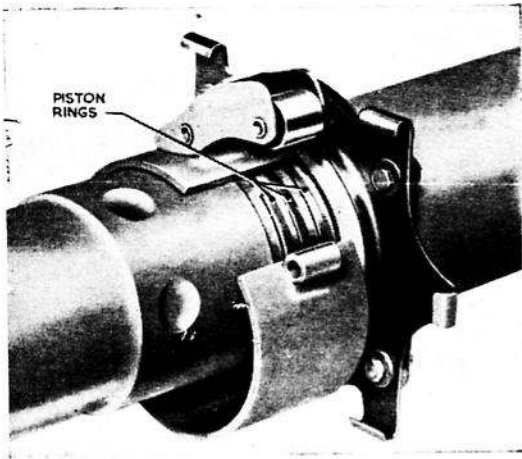

Fig. 11. Fitting piston ring clip
- (1) Check the piston rings for freedom in their grooves and set them with the gaps at approximately 120 deg. radial spacing.
- (2) Apply a coat of grease XG-275 and fit the special piston ring clip over the rings, leaving $\frac{1}{8}$ in. of the piston skirt projecting (*fig. 11*).